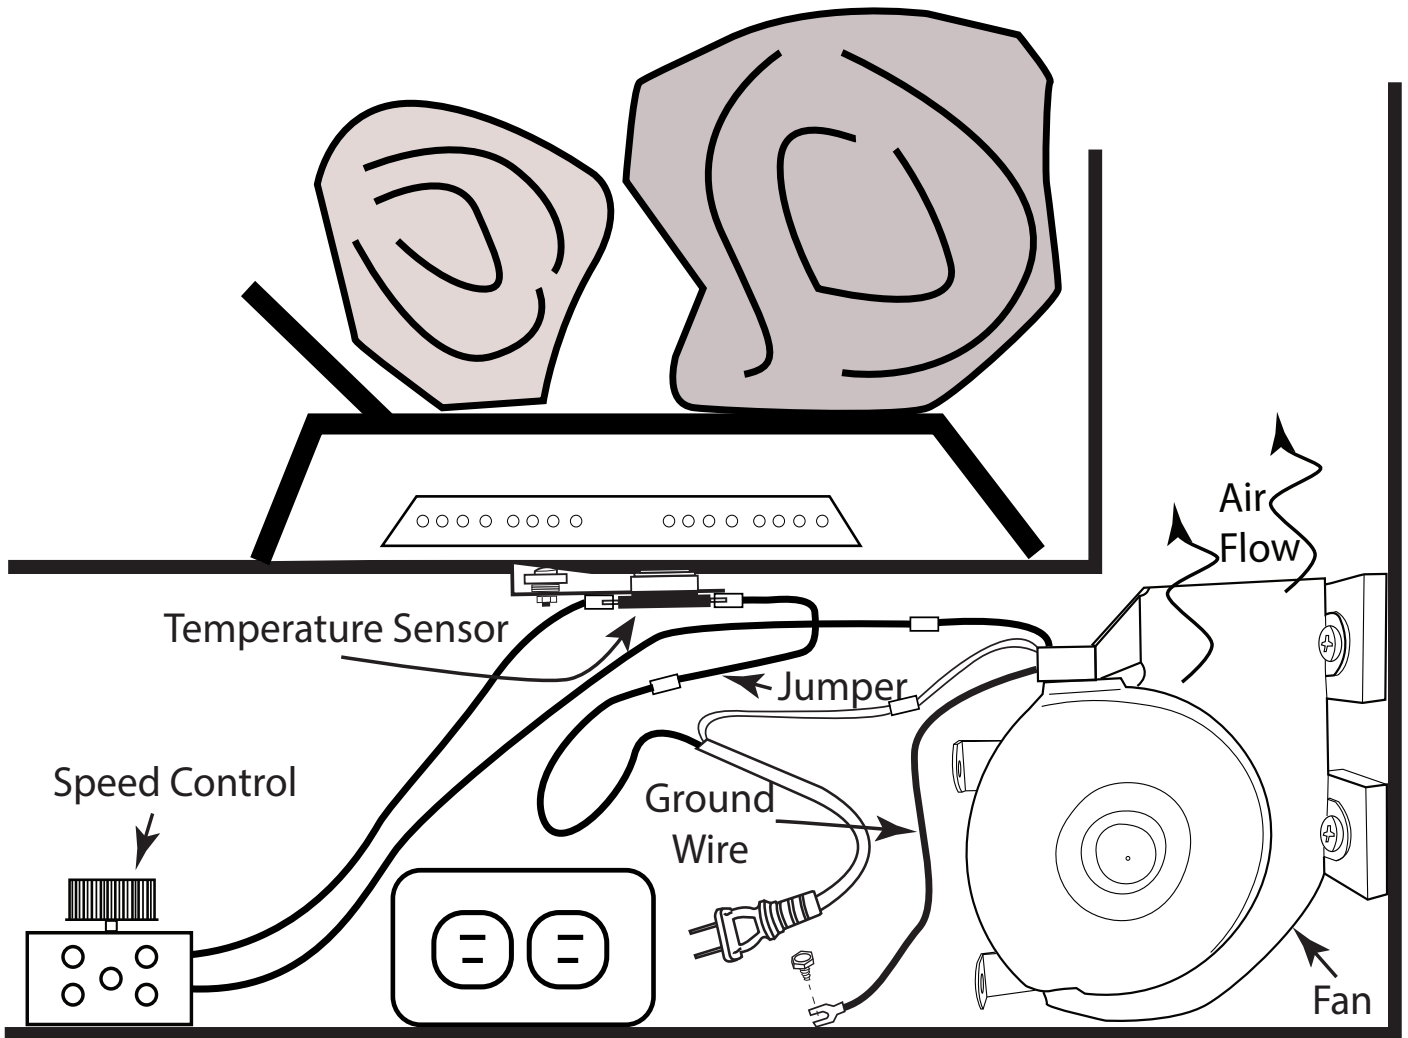

Fig. 2 Side view of a circulating fireplace showing placement of fan kit and wiring.
- If this is a replacement for an old system then simply unplug the old fan system and remove it from the appliance. If its a new install simply slide it into position as shown in Fig. 2.
- Find a convenient location to mount the temperature sensor. The sensor operates best when secured to the base of the burnerpan underneath the log set toward the rear of the firebox (See Fig. 2). The magnet will hold the sensor into place against the metal surface. **NOTE:** The temperature sensor **MUST BE** installed against the metal surface with the sensor towards the heated side while fire is operating.
- The black jumper wire will then connect to the temperature sensor (See Fig. 2).